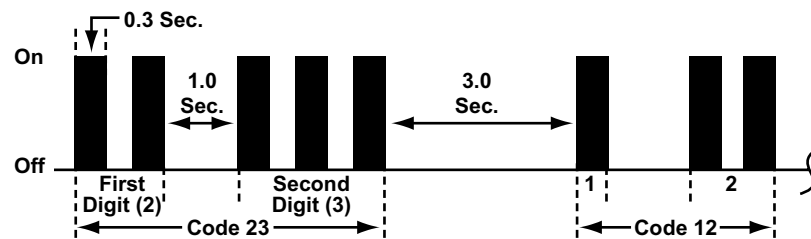

Figure 7-17 Transmission Code Type 01
- Type 01 transmission codes, see Figure 7-17 and Table 7-3 on page 60